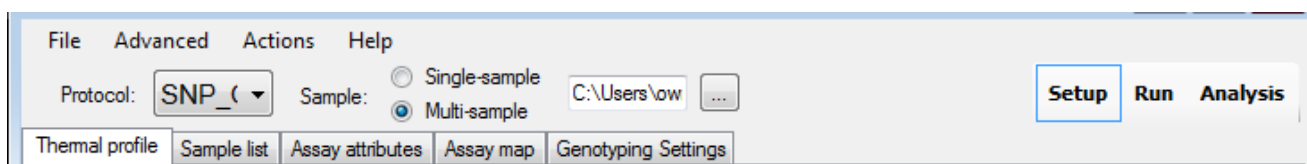

Figure 57. Selecting the protocol for your pre-dispensed SmartChip Custom Panel.
- If your SmartChip Panel contains multiple samples that were loaded using the SmartChip MSND, click the **Multi-sample** radio button next to “Sample”. Then click the button labeled [...] to open the *Open* dialog box and navigate to the location of the SmartChip Layout file (.pd extension) from the SmartChip MSND for your chip. (You will likely access the SmartChip Layout file on a USB memory stick or across a network.) Select the file and click [Open] to accept your choice and close the window (Figure 57).